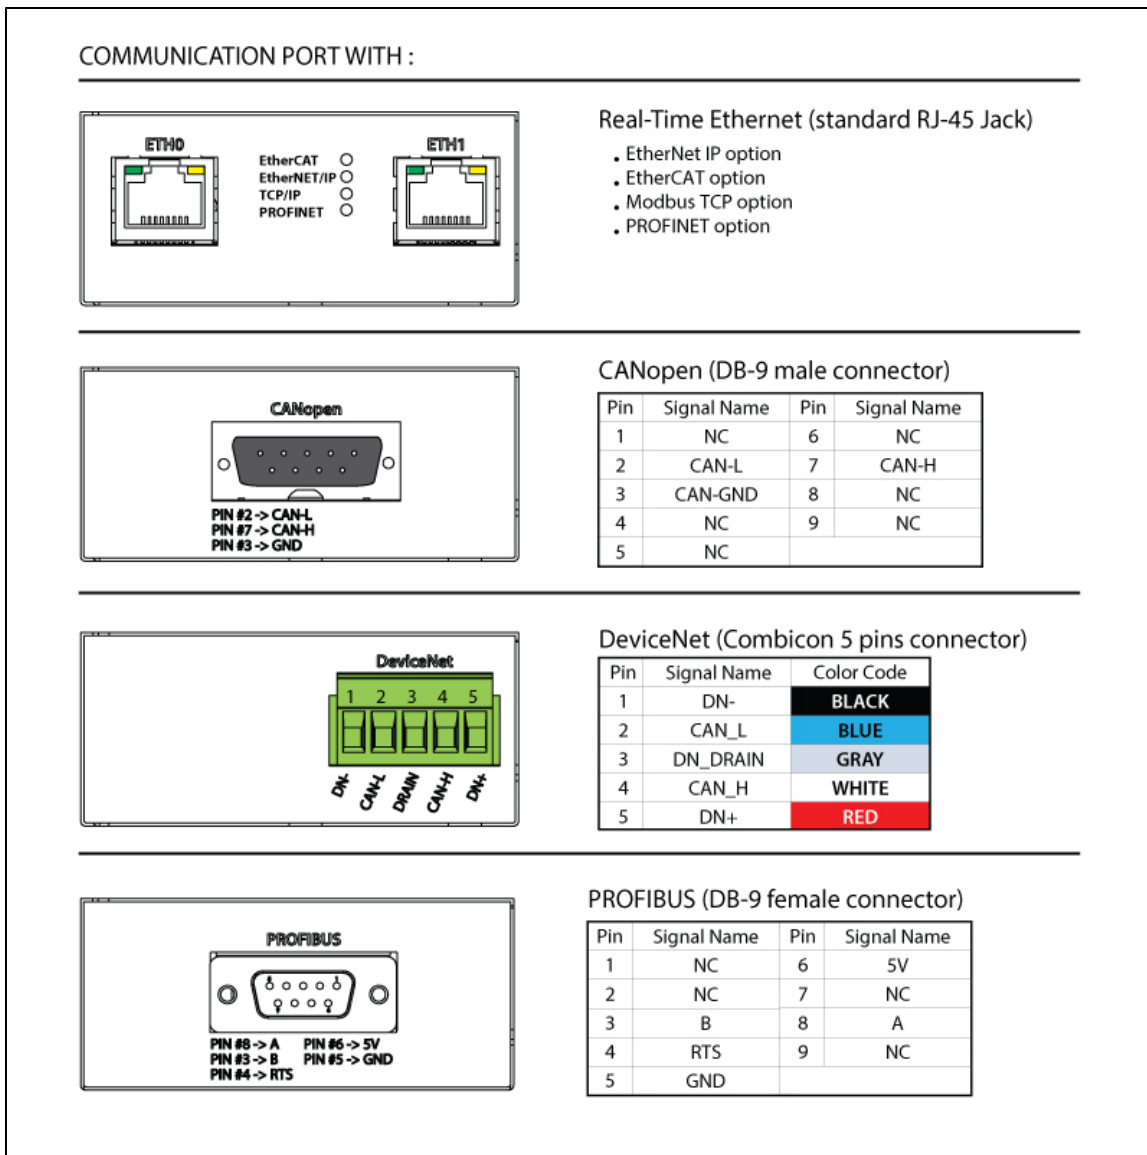

Figure 3.5.2.1 : Representation of the Communication Panel options for the Robotiq Universal Controller.
The Figure 3.5.2.1 shows the Communication Panel of the Robotiq Universal Controller. The communication port will vary depending on the communication protocol chosen. Real-Time Ethernet family protocols ( Ethernet IP, EtherCAT, Modbus TCP) will come with two (2) RJ45 standard ports. DeviceNet protocol will come with a 5-pin Combicon connector, CANopen with a standard male DB-9 connector, finally ProfiBUS will come with a standard female DB-9 connector.